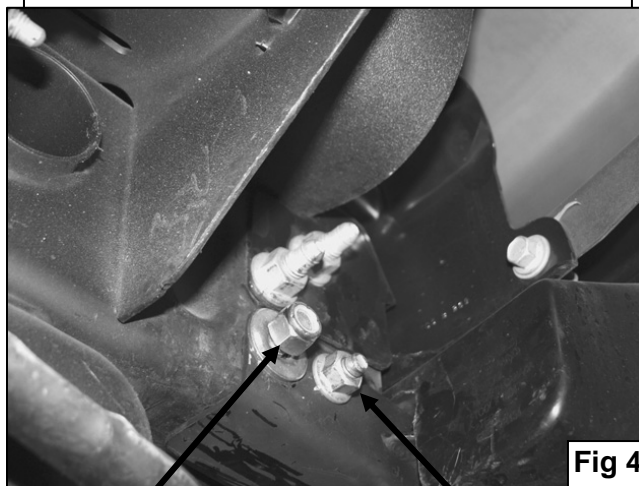

Fig 4
7. **On the passenger side** use the included (1) 12mm x 35mm Bolt Plate, (1) 12mm Lock Washer, (1) 12mm Hex Nut, and (1) 12mm Flat Washer to attach Mounting Bracket to rear tow hook hole. Repeat step 6 to attach Mounting Bracket to front tow hook hole (**Figure 4**).